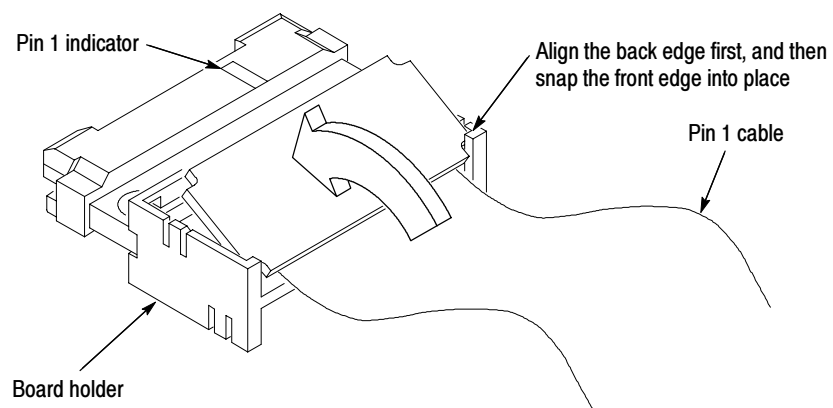

Figure 28: Positioning the circuit board in the probe
3. Lay the Mictor board assembly on a flat surface with the pin 1 side of the connector facing up. See Figure 28 on page 37 for the correct orientation.
5. Place the circuit board attached to the pin 1 cable into the back (cable side) of the board holder as shown in Figure 28.